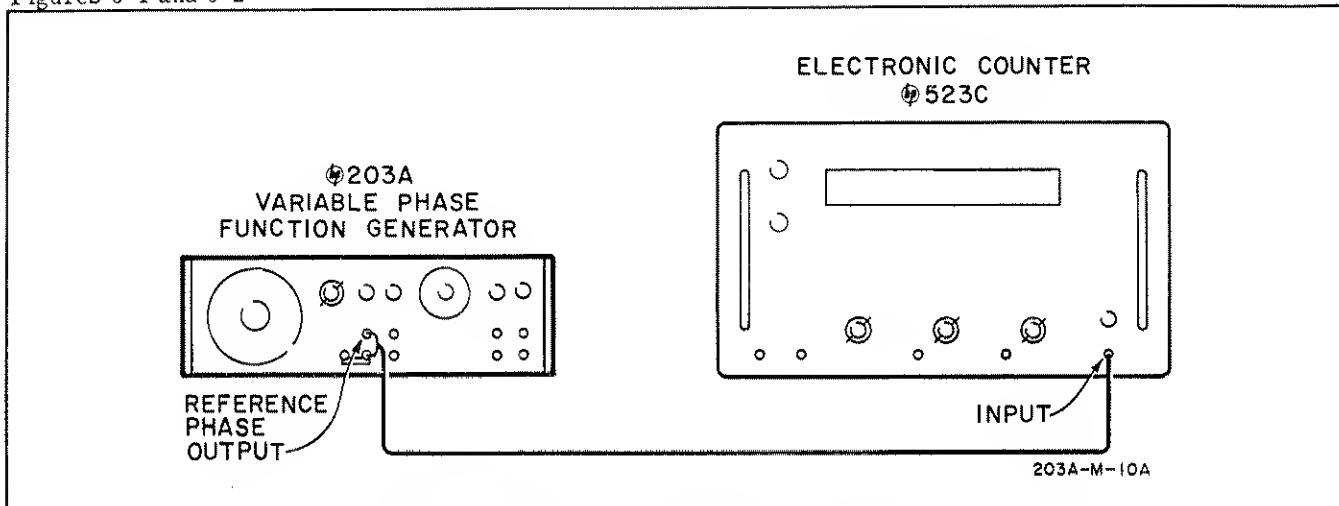

Figure 5-1. Frequency Dial Calibration
- d. Connect Model 203A as shown in figure 5-1.
- Connect Model 203A as shown in figure 5-1.